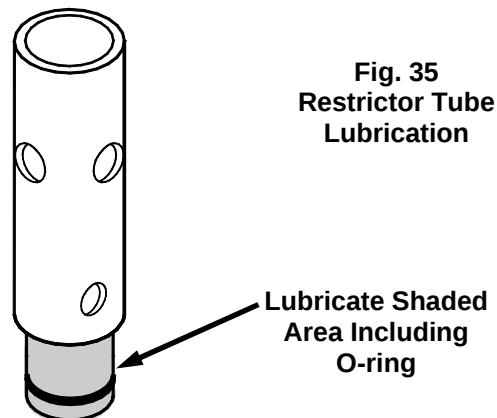

Fig. 35
6. Install the o-ring on the restrictor tube (Fig. 35) if removable. Apply lubricant sparingly over the o-ring. Place the restrictor tube in the bottom of the mix pan for sanitizing. Make certain that lubricant does not block the mix inlet hole on the restrictor tube.